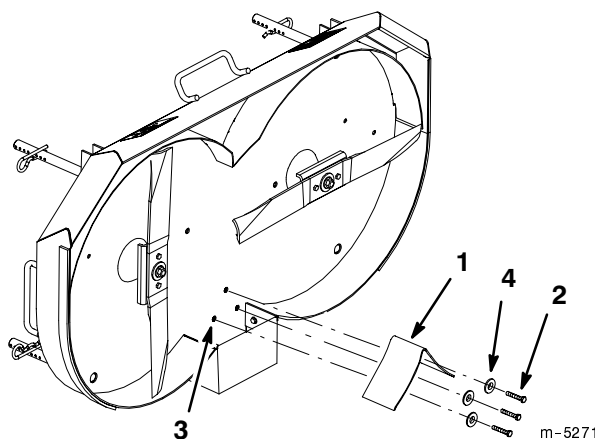

Figure 39
3. Remove screws and washers that are installed into deck for securing mulching baffle (Fig. 39).
4. Install baffle using hardware that was removed. (Fig. 39).
- Remove screws, washers and mulching baffle from the mower (Fig. 39).